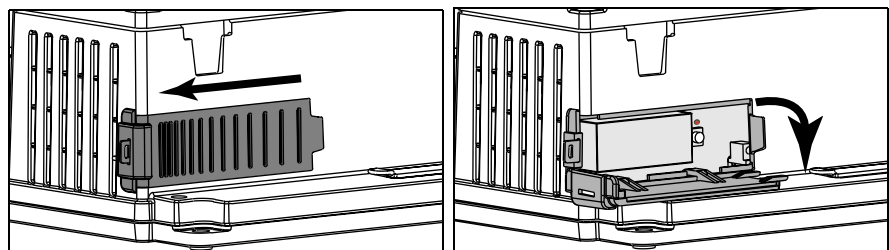

Figure 1: Opening the access door
3. Open the access door by sliding the door along the side of the circuit monitor, then gently pulling the door down to open it (see Figure 1).